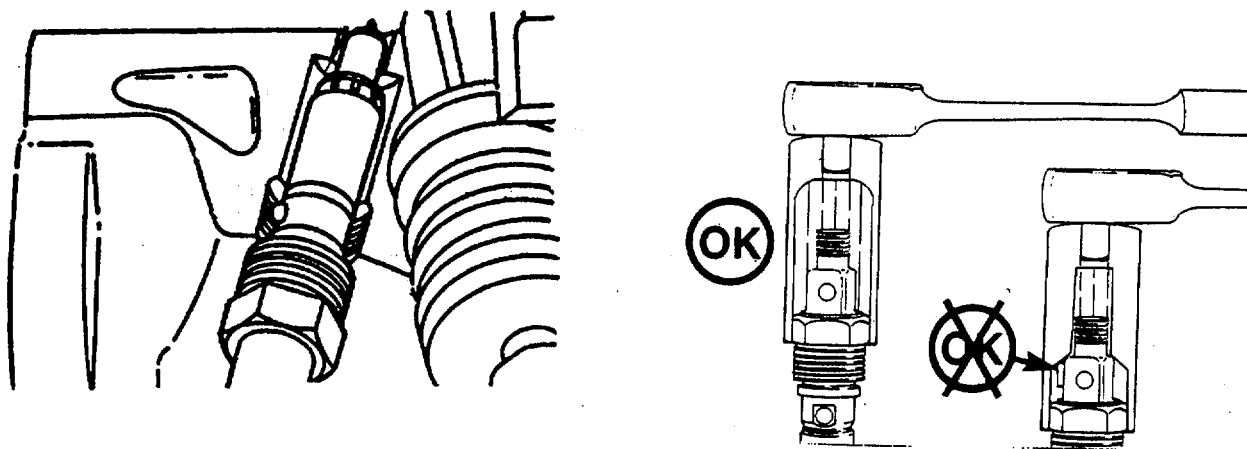

FIGURE 2-39. Fuel Injector Group (Replacement).
- a. Replace new gasket (1).
- c. Replace injector (3) and sealing washer (4).
- d. The protrusion on the side of the nozzle fits into a notch in the head to orient the injector. (FIGURE 2-39).